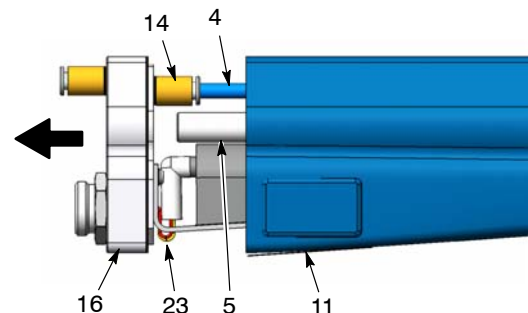

Figure 25 Pulling the Heat Sink away from the Housing
6. See Figure 25. Pull the heat sink (16) away from the housing (11) and disconnect the air tubing (4) from the connector (14).
5. See Figure 25. Connect the air tubing (4) to the connector (14), then push the heat sink (16) back up against the housing while fitting the powder tube (5) through the heat sink. Make sure the harness wires (23) are not pinched between the housing (11) and the heat sink.